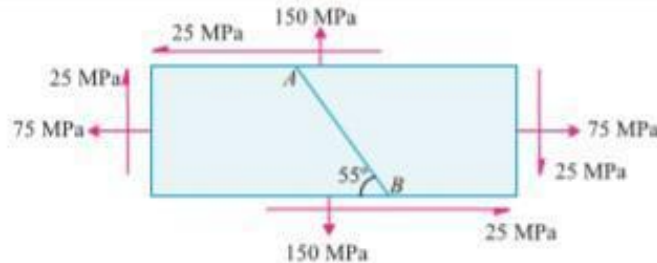

Fig. 7.29
21. A point in a strained material is subjected to the stresses as shown in Fig. 7.29. Find graphically, or otherwise, the normal and shear stresses on the section AB.